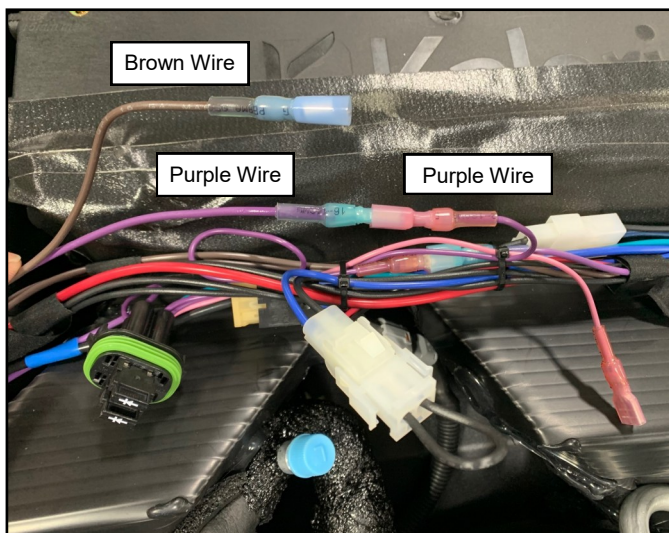

Fig. 1.7 (Connect A/C Power Wire Harness)
- 1.7 Connect the purple wire on the A/C Power Supply Wire Harness to the purple wire on the A/C Unit harness per fig. 1.7. The brown wire on the A/C power supply wire harness will not be used.